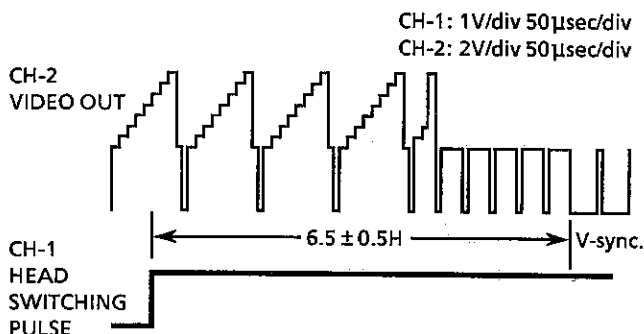

Figure 2-2.
5. Adjust R701 so that the leading edge of the head switching pulse is $6.5H$ (lines) ahead of the vertical sync. as shown in Figure 2-2.